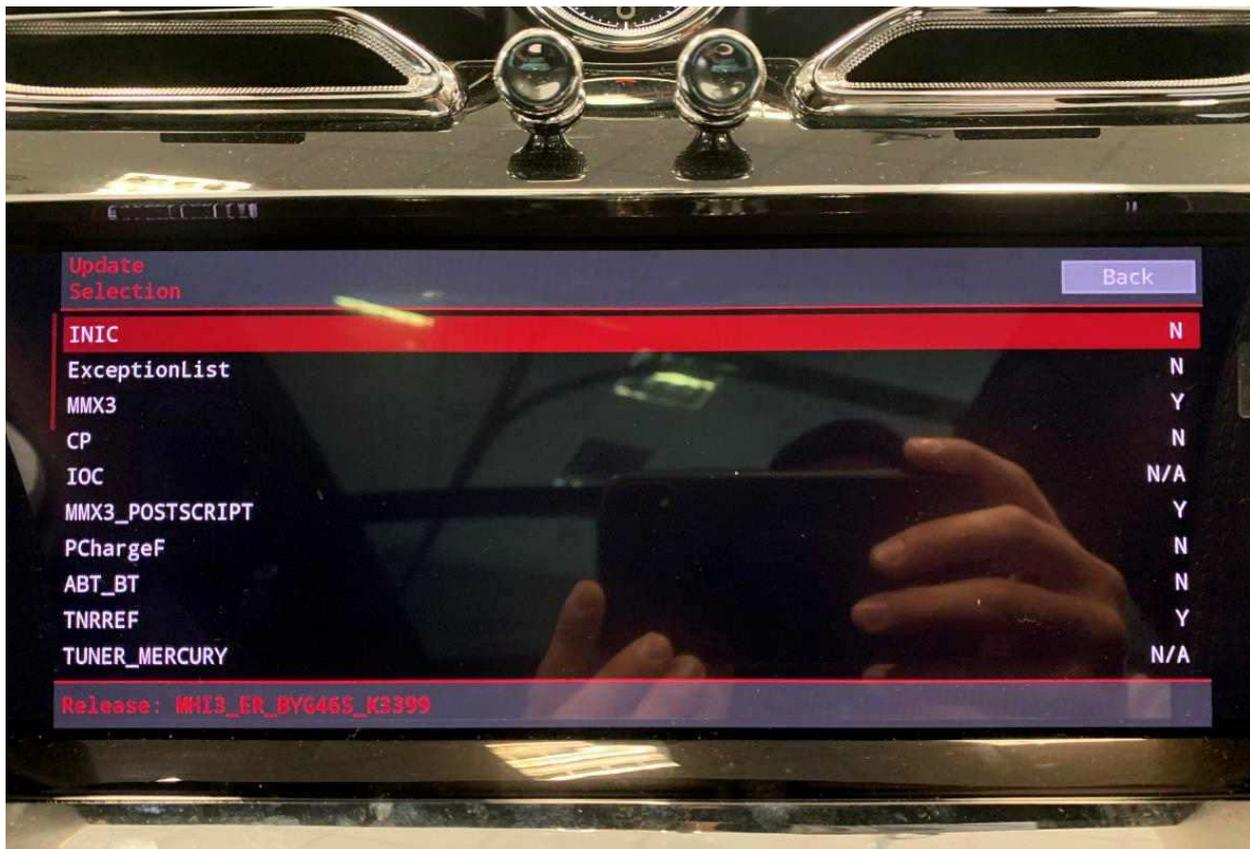
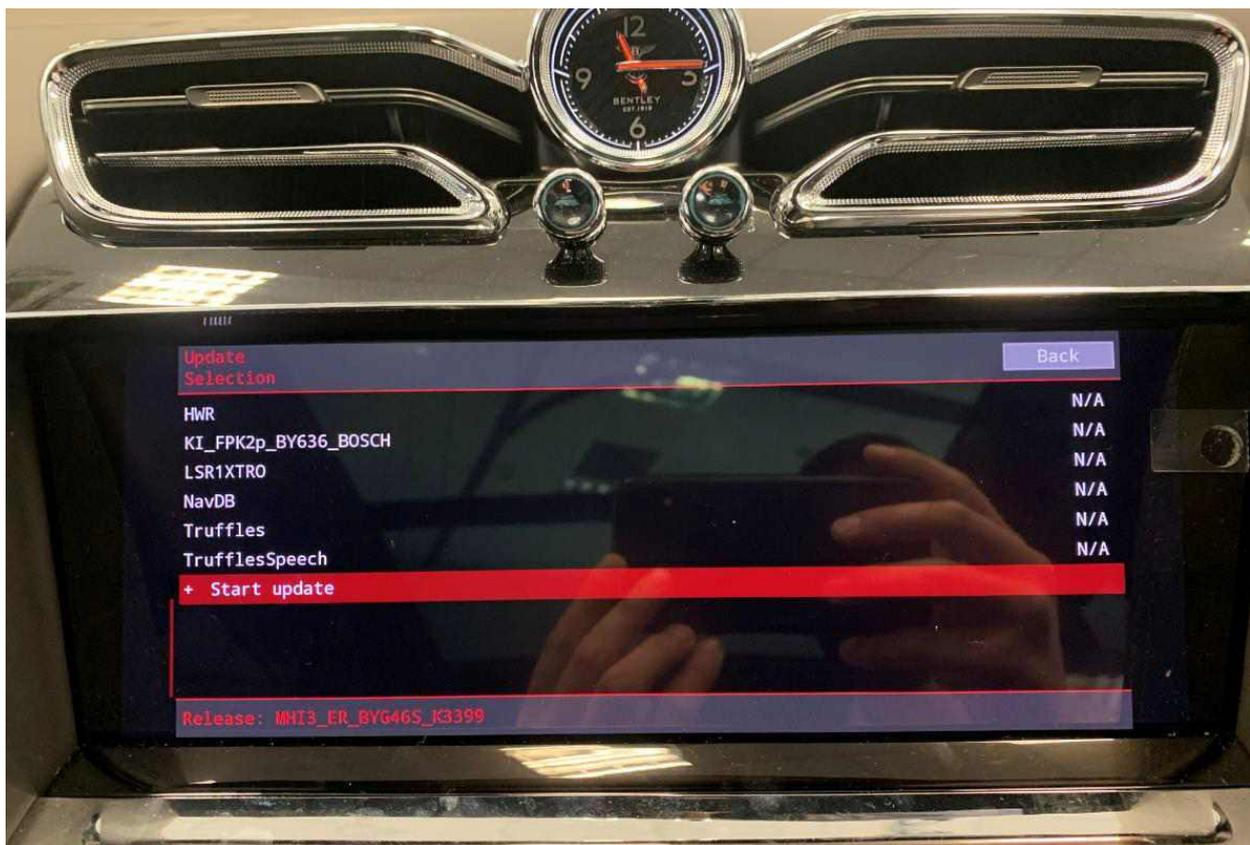

Figure 6
Figure 7
15. A summary of the proposed changes will then appear (Figure 6), scroll down and select 'Start update' (Figure 7)